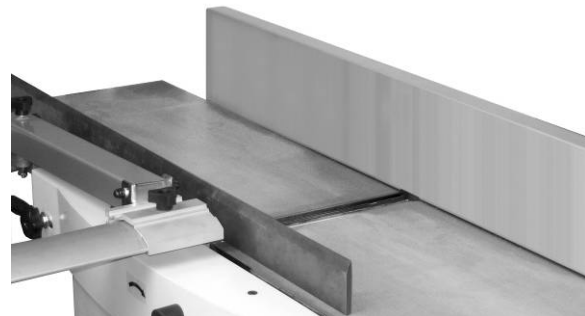

Figure 9
The straight edge should lie level across both tables. Move the straight edge to the back of the outfeed table as shown in Figure 9 and perform the same test.
5. Set a *straightedge* (J) on the *outfeed table* (F) near the *fence* (H). One end of the straightedge should be positioned over the *cutting knife* (C) near the end of the blade as shown in Fig. 9.